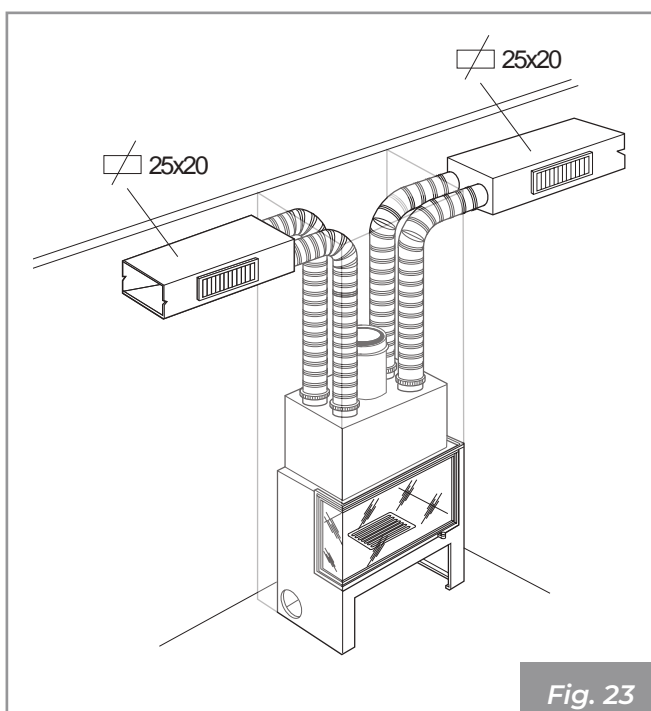

Fig. 23
- Smooth metal pipe - length up to 14 m on double duct **(Fig. 23)**.